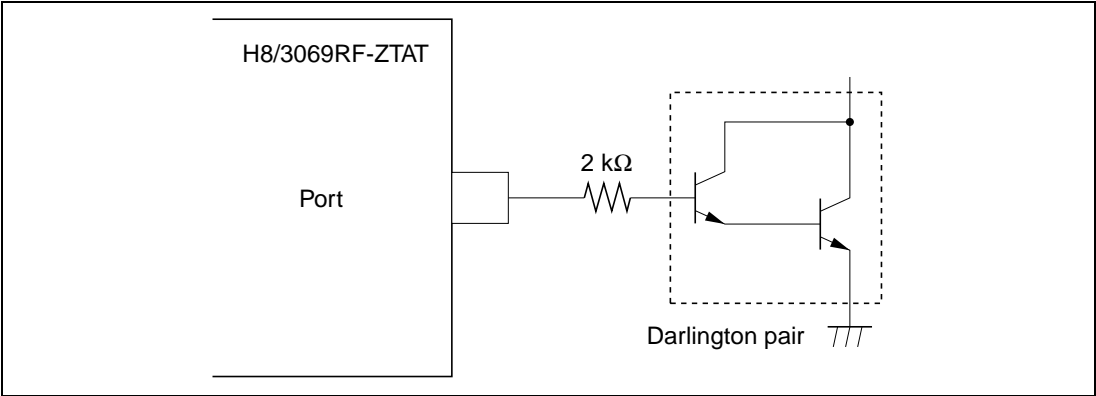

Figure 21.7 Darlington Pair Drive Circuit (Example)
2. When directly driving a darlington pair or LED, always insert a current-limiting resistor in the output line, as shown in figures 21.7 and 21.8.